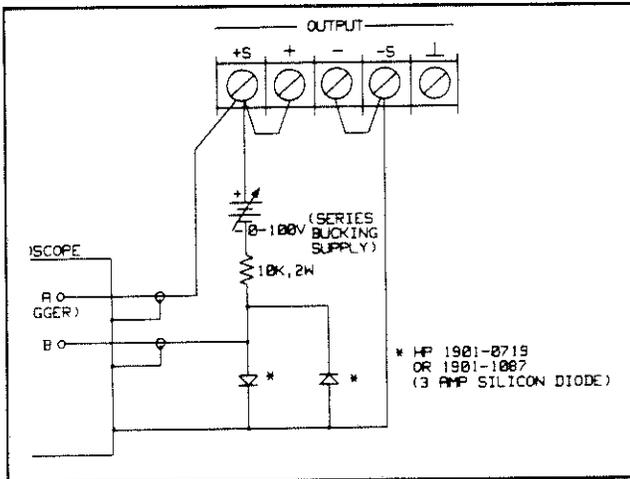

Figure 3-5. CV Up Programming Speed Test Setup
- a. Turn off the supply and connect the output as shown in Figure 3-5.
- j. Now observe Channel B on the oscilloscope while maintaining the trigger on Channel A as in step h. Note the series supply bucks out the full scale output voltage and that the waveform is clamped at approximately 0.6 V and rises to the top horizontal line when the output voltage is at full scale. The diodes (see Figure 3-5) prevent gross overload of Channel B (which is set at 10 mV division) allowing examination of the "tail" of the waveform. The output voltage should be within 1 LSB (5 mV for HP 6632A, 12.5 mV for HP 6633A, 25 mV for HP 6634A) of its final settling value on the top horizontal line in less than the time specified in Table 3-2, CV PROGRAMMING SPEED.